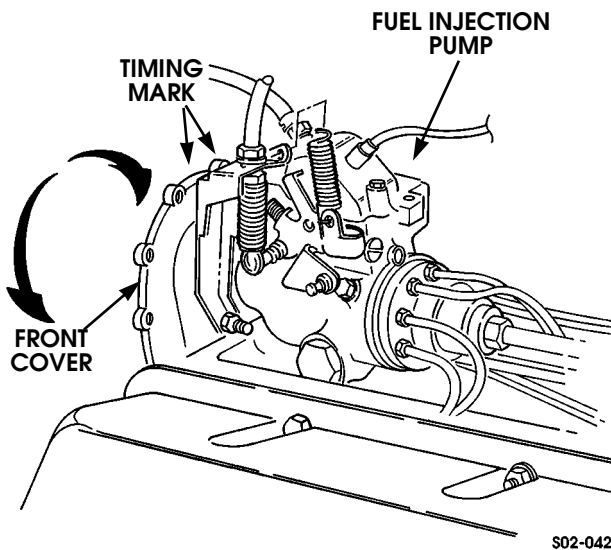

Figure 3-77: Timing Marks Location
1. Loosen three nuts attaching injection pump to front cover (Figure 3-77).